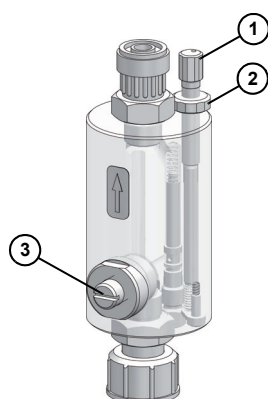

Fig. 7-1: FLOWCON LP 1 / LP2
5. The symbol should be open. If it is closed, turn the adjusting screw (1) (see fig. 7-1 on page 13) counterclockwise until the contact symbol is open.
6. Turn the adjusting screw (1) slowly clockwise until the contact symbol is closed.
7. Unscrew the adjusting screw (1) again by three turns.
8. Open the bypass valve (3), by unscrewing it counterclockwise with a screwdriver all the way to the end stop.
10. Slowly close the bypass valve (3) with a screwdriver until the contact symbol closes with every dosing stroke. Once this point is reached, a circular symbol appears on the display. This symbol is used to find the optimum switch point for the reed switch.